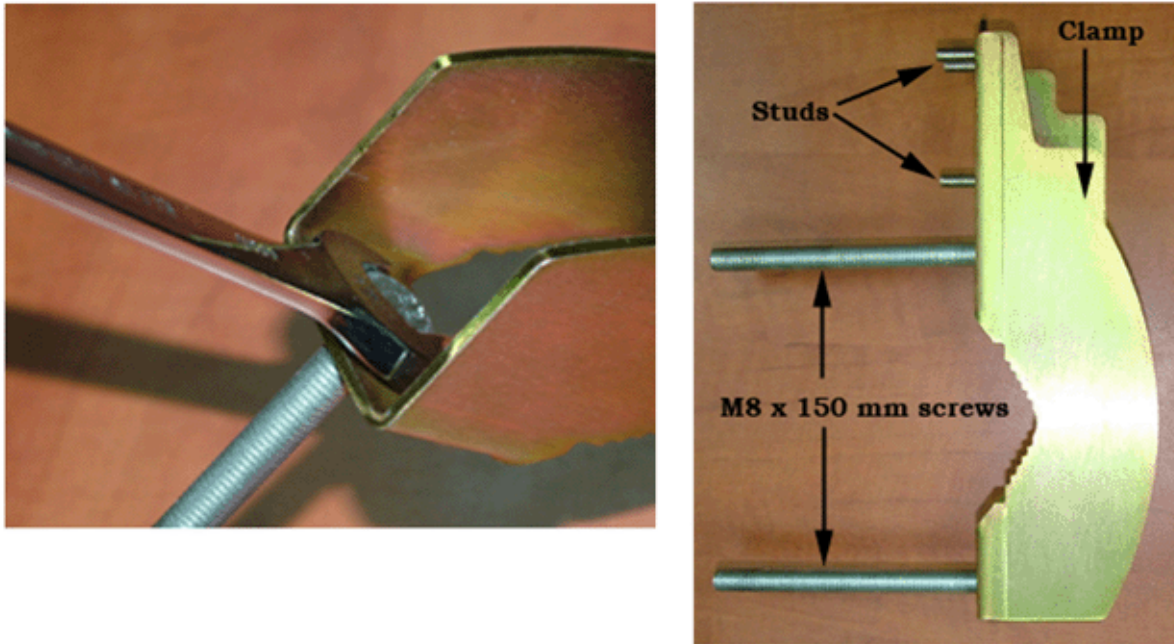

Figure 5-14: Preparing the Clamp
- 1 Fasten the two main (M8 x 150mm) screws to the Clamp. (MC5021-01), either manually or by using a spanner (no special torque is required). Use a flat washer under the screw's head. See Figure 5-14.